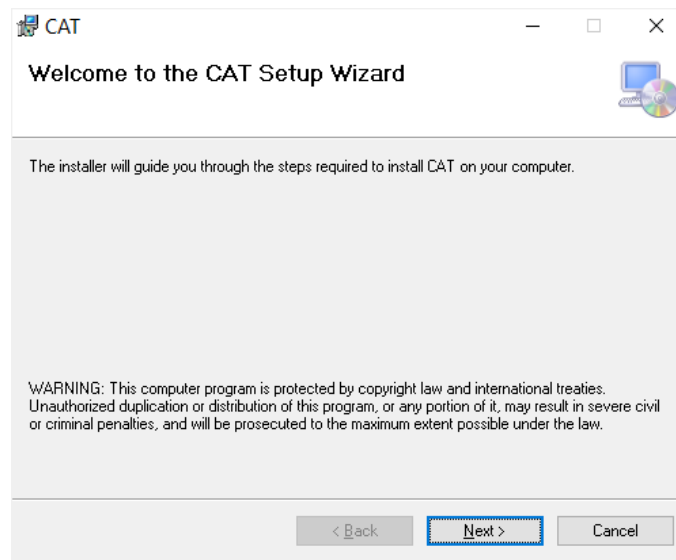

Fig. 13: Initial installation screen for the CAT software
3. Onscreen, you should see the box shown in **Figure 13**.